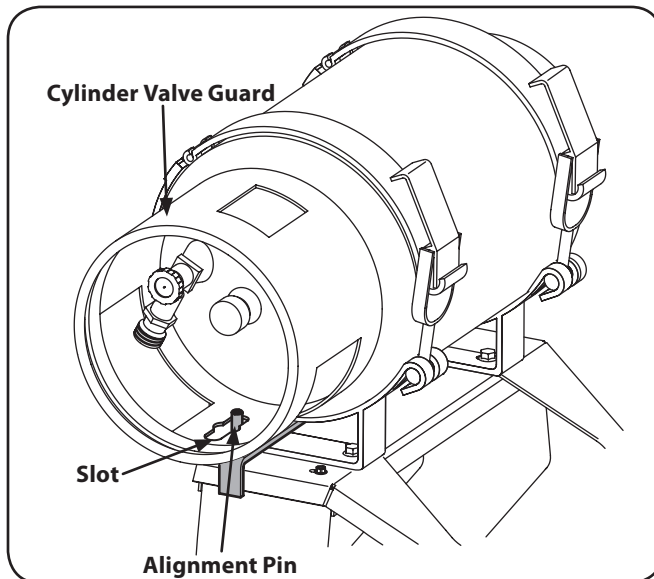

Figure 3-7
1. Open the straps and carefully place the LPG tank into the straps with the cylinder valve guard towards the front of the unit. Be sure that the alignment pin fits into the slot on the bottom of the cylinder valve guard. See Fig. 3-7.